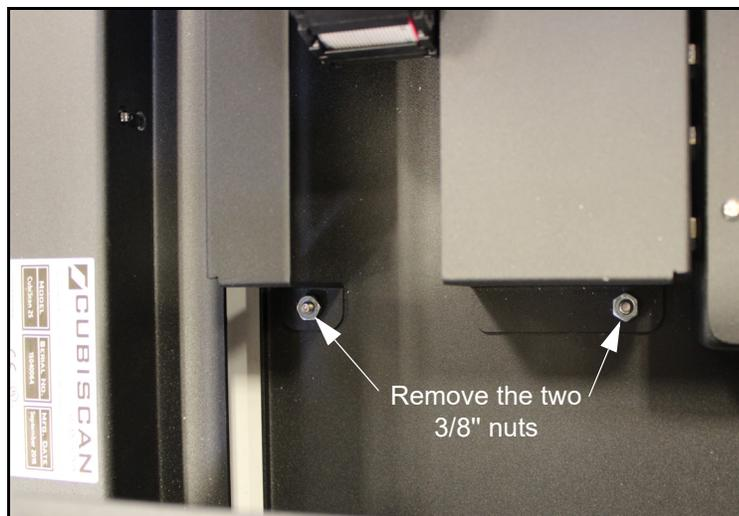

Figure 45
9. Remove the two nuts using a 3/8" nut driver (see Figure 45).